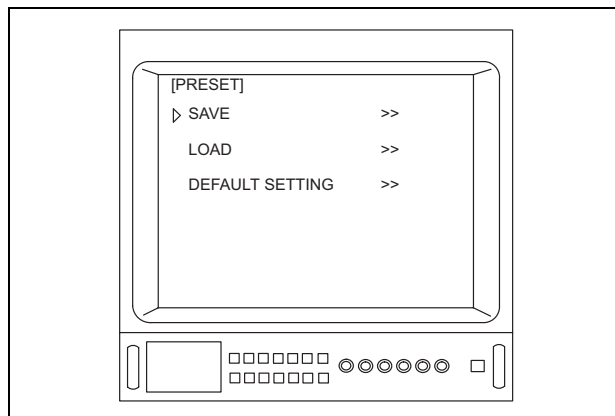

Figure 5.71
4. Depress the menu switches “◀” or “▶”, or the “↑/↓/←/→” key on the keyboard to move the arrow “▷” to “SAVE” (see Figure 5.71).
4. Depress the menu switches “” or “”, or the “///” key on the keyboard to move the arrow “” to “SAVE” (see Figure 5.71).